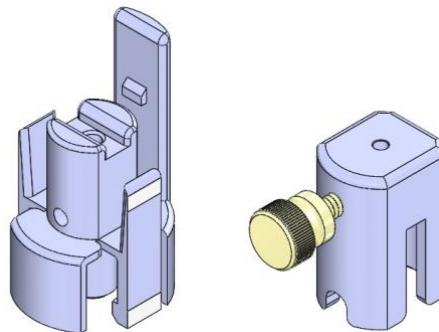

Figure 16: Dock (Left) and Device Lock (Right)
1. Remove the Dock (See Figure 16) and Device Lock (see Figure 16) from the SMARTFrame package or from the SmartFrame Expanded Accessory Kit (as applicable).